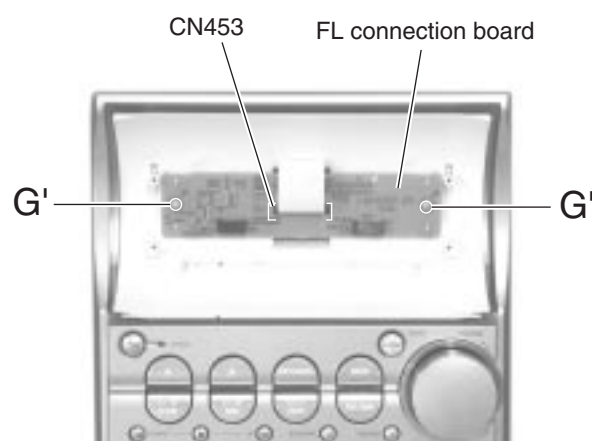

Fig.52
■ Removing the FL relay board(See Fig.52)